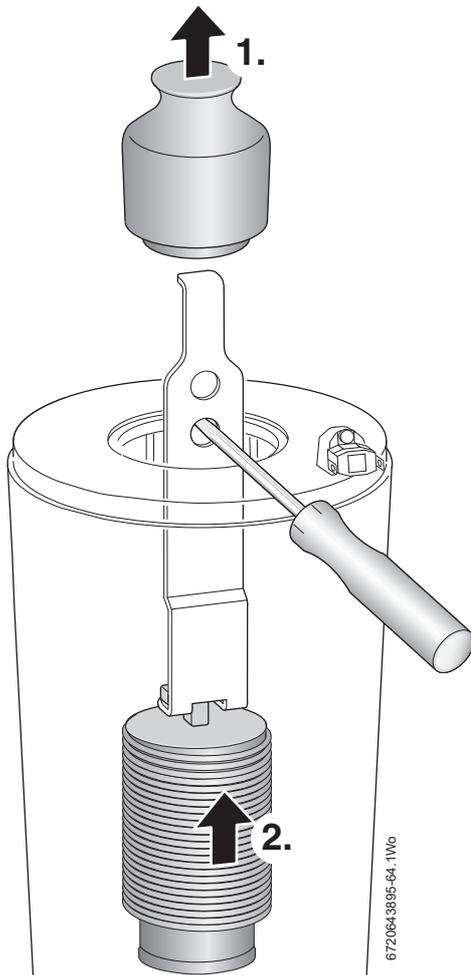

Fig. 66 Baffle removal
1. Refer to figure 66 and remove top baffle.
If the lower baffle is stuck, it may be necessary to use the "Baffle removal tool" from the heat exchanger cleaning kit - 7 716 192 312, as shown in figure 66.
The baffles (1) and (2) must be refitted into the heat exchanger in the order shown in figure 66. Failure to do so may result in damage to the boiler.